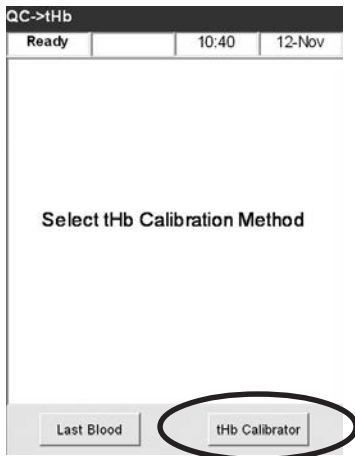

Fig. 2-16 Select tHb Calibrator
- Select **<tHb Calibrator>** (Fig. 2-16).